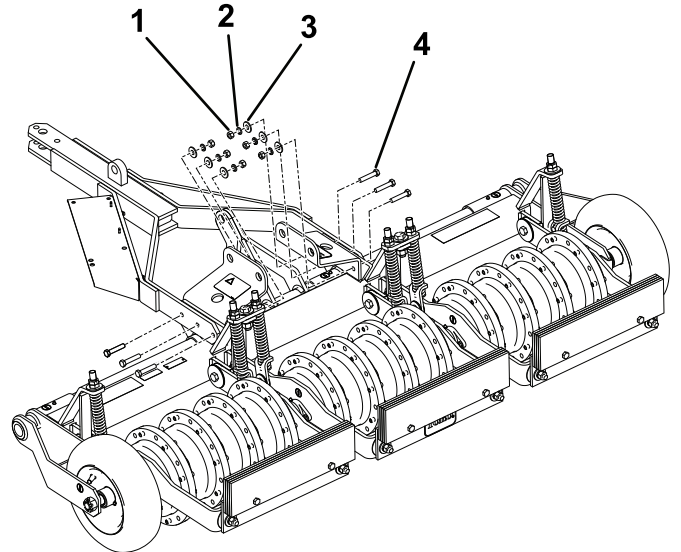

Figure 7
4. Secure the tongue assembly and the brackets with the hardware as shown in Figure 7 and torque the nuts to 54 to 74 N·m (67-83 ft-lb).